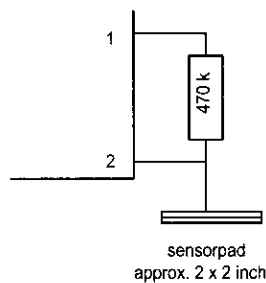

Figure 88. Principle schematic of the people sensor.
- Make pin 1 (in Figure 88) low, to discharge the capacitor
If pin 2 is high the charge of the capacitor is small (loading was fast) so no person was near it. If the pin is still low it means the charge is much greater, so a person (or other conductive object) is close by. Note that pins 1 and 2 refer to the pins in Figure 88 and not the 16F877.